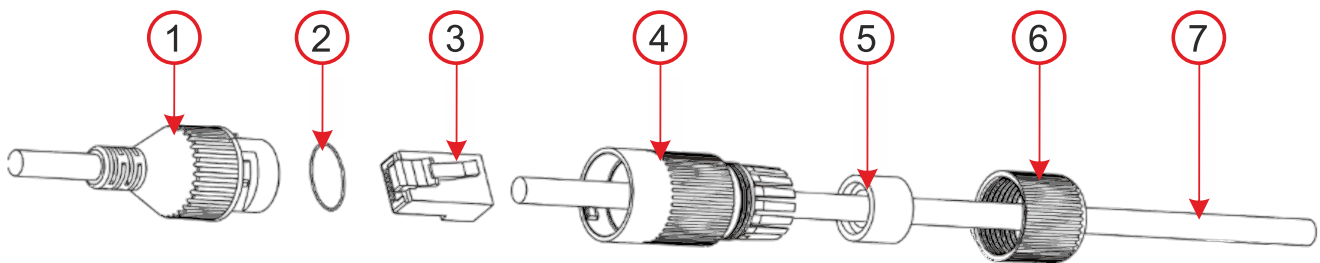

Fig. 4: How to fold the waterproof LAN connector cover
3. Drill holes in the selected location with a \varnothing 6 mm drill bit and fix with dowels from the package. Open the mounting base by removing the screws. Depending on the selected cable feed method – centre or side (9), prepare a hole for running the cables. In case of side installation use the cable grommet (5, 6, 7) for the selected hole – (the cable grommet is included in the packing), use the blanking plug (8) for the unused one.
4. Pull the LAN cable through the back of the socket. Screw the back of the socket onto the selected place on the wall with the three screws provided in the packaging and crimp the RJ-45 connector with crimping pliers (see Fig. 4).
5. Plug the RJ-45 connector into the camera. Secure the connection with the waterproof cover (7) with the bayonet cap (5) and screw it tight. If the utilized router or switch does not provide PoE (power over Ethernet), connect the camera power connector to an external 12 V DC power supply (min. 0.5 A).